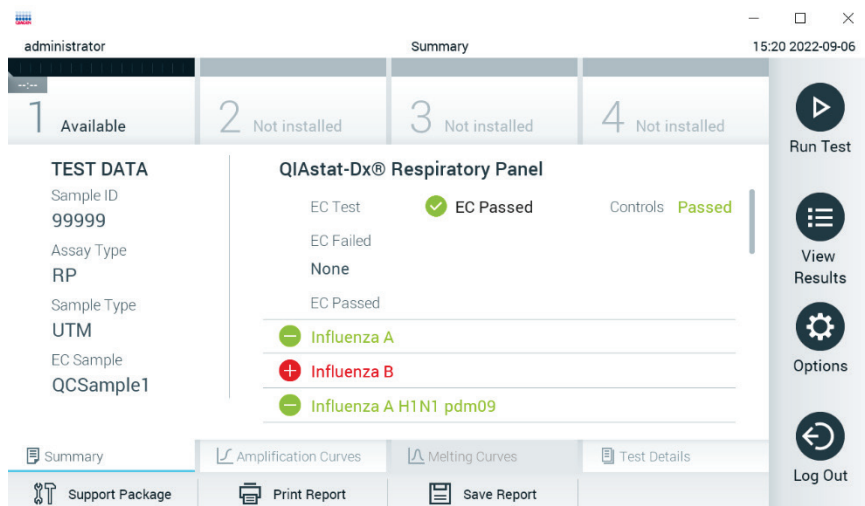

Figure 97. EC Results Summary screen.
12. After the QIAstat-Dx assay cartridge has been ejected, the results Summary screen will appear (Figure 97). Refer to Section 8.3 for further details.